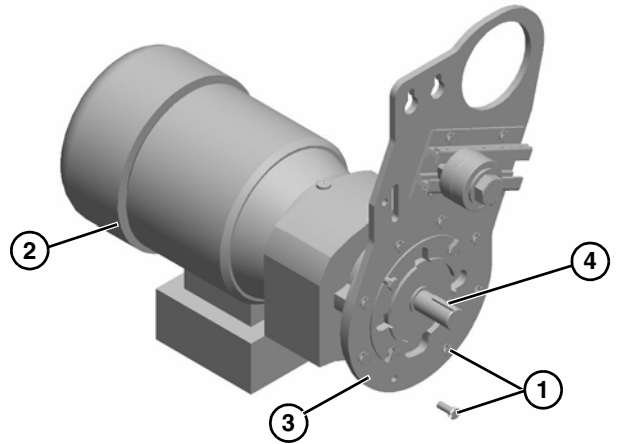

**Figure 19**
1. Loosen terminal box screws (**Figure 19, item 1**) and remove cover (**Figure 19, item 2**).